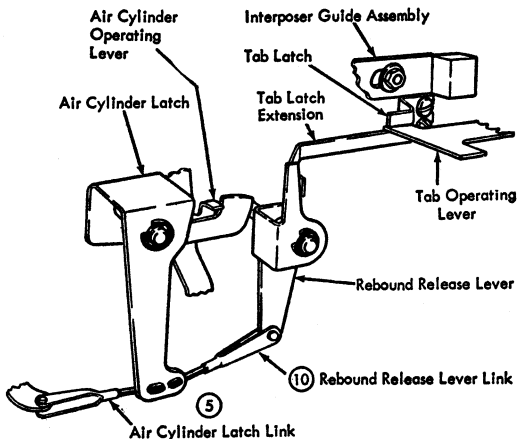

Figure 2. Tab Rebound Release
2. The rebound release lever strikes an extension on the tabular latch, moving the interposer guide assembly to the left. This action unlatches the tab operating lever (Figure 2).